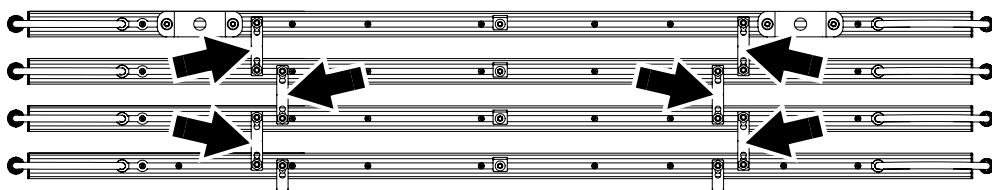

Figure 7: Installing parallel couplers
3. Depending on the instructions later in this chapter, fasten the coupler to the fixtures with either grade 8.8 strength M6x16mm bolts, washers and self-locking nuts or with the thumbscrews supplied with the couplers. See Figure 7. Install parallel couplers (arrowed) as close as possible to the ends of fixtures but allow space for sliding brackets.